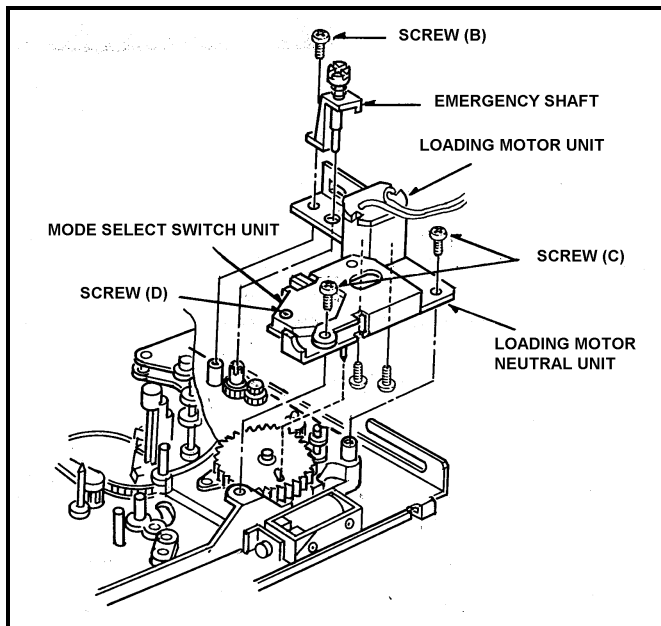

Fig.6-10-1 Removal of mode Select Switch Unit
6. Unscrew the 2 screws (B) and remove the supply Brake Solenoid from Supply Brake Solenoid Base Unit as shown in Figure 6-10-1.
5. Remove the Pinch Solenoid Unit and Loading Motor Neutral Unit (Refer to item 6-9).
6. Remove the screw (D) and remove the Mode Select Switch Unit from Loading Motor Neutral Unit as shown in Figure 6-10-1.